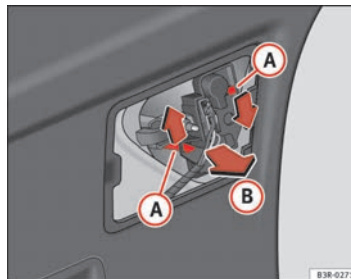

Fig. 234 Remove the bulb holder
- Press on the tabs ① ⇒ page 281, fig. 234 in the direction of the arrows and remove the bulb holder by pulling in the direction of the arrow ②.